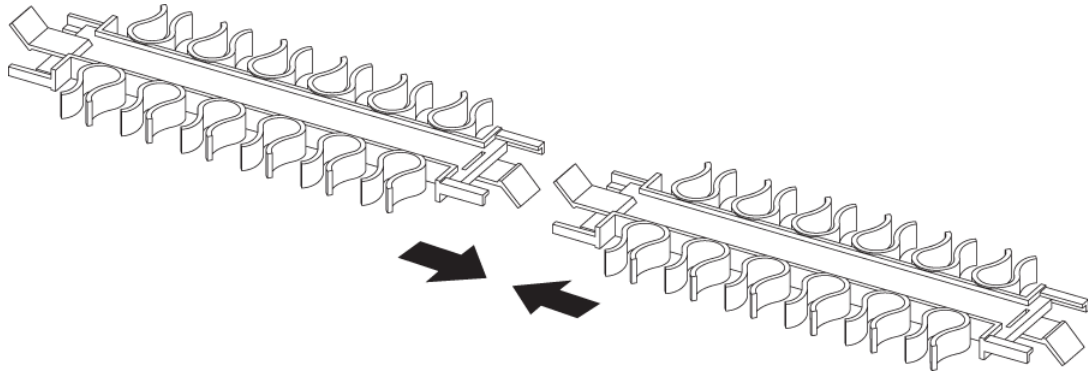

Figure 59. Connecting cable holders
1. Hold two cable holders as shown in Figure 59.